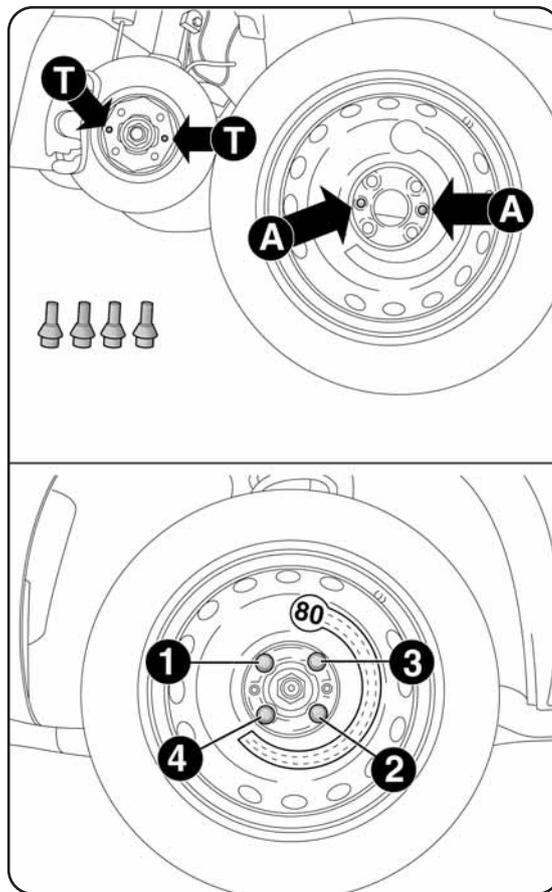

fig. 13
- fit the space-saver wheel, aligning pins T-fig. 13 with one of the openings A on the wheel;
- fully tighten the bolts, passing alternately from one bolt to the opposite one, following the order illustrated in fig. 13.